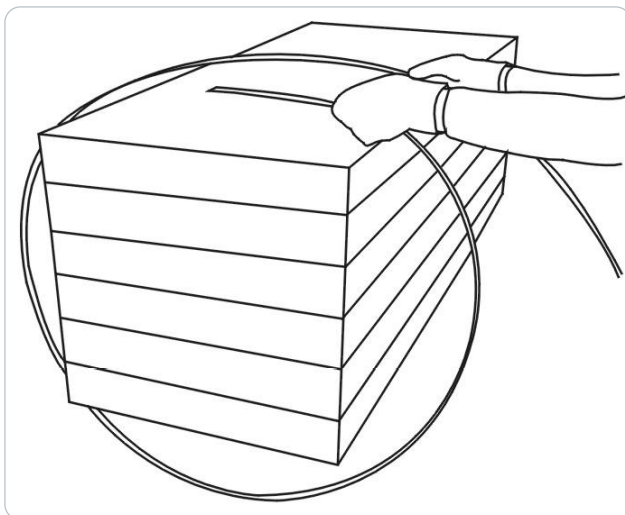

Figure 1
1. Pass the strap around the package as shown in Figure 1. The end of the strapping band should be held with the left hand and tension applied with the right hand.